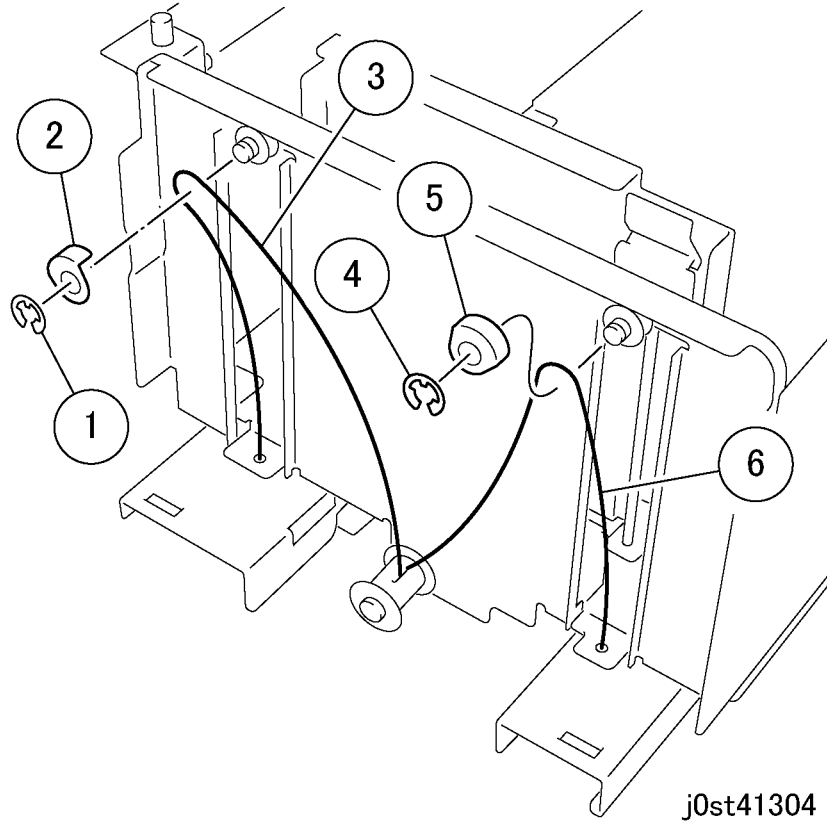

Figure 2 Removing the Tray Cable (j0st41304)
3. Remove the Tray Cable. (Figure 2)